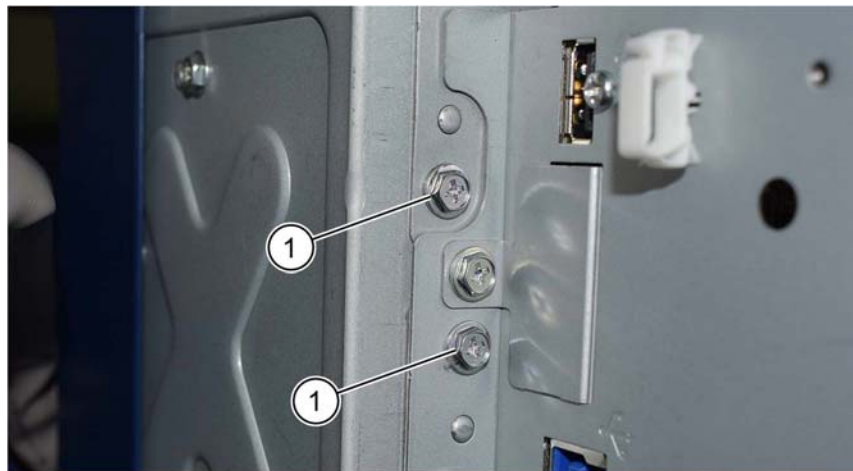

Figure 12 Upper right screws
15. Remove two screws (1), Figure 12.